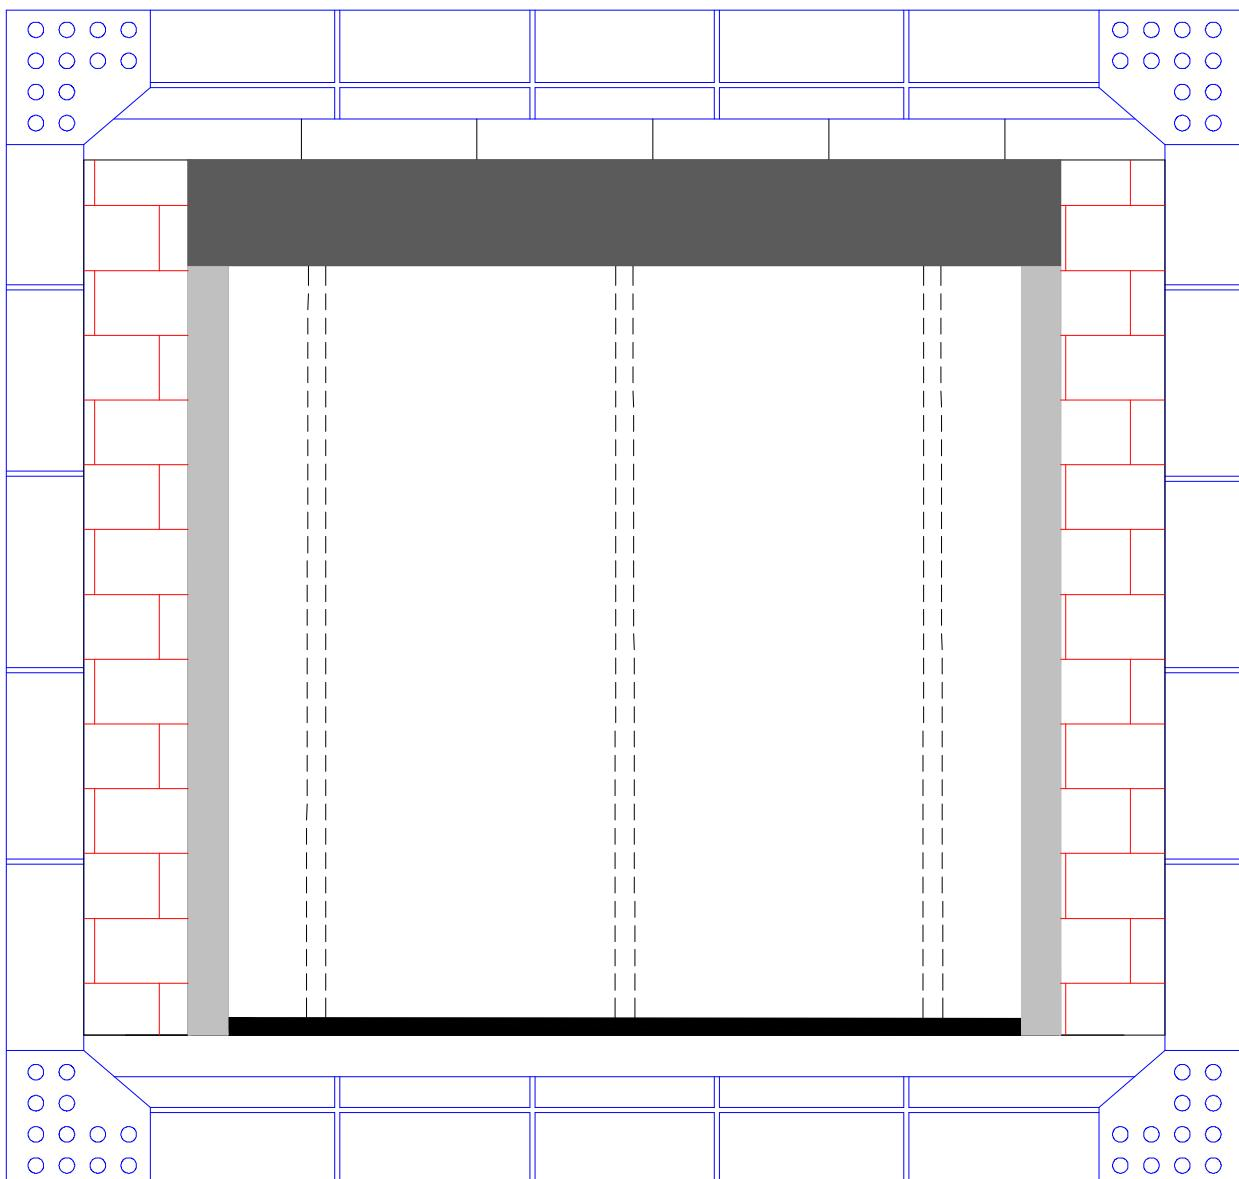

FIGURE 1
- 5.1 The sample is affixed to a concrete brick wall of 140 mm thick and 1180 Kg/m³ in density, covered with mortar by its exposed face. All was built within a steel frame, which once is installed in the furnace, becomes the vertical side of it, as in the figure 1. The box and the guides were exposed to fire.
Figures: 1 and 2